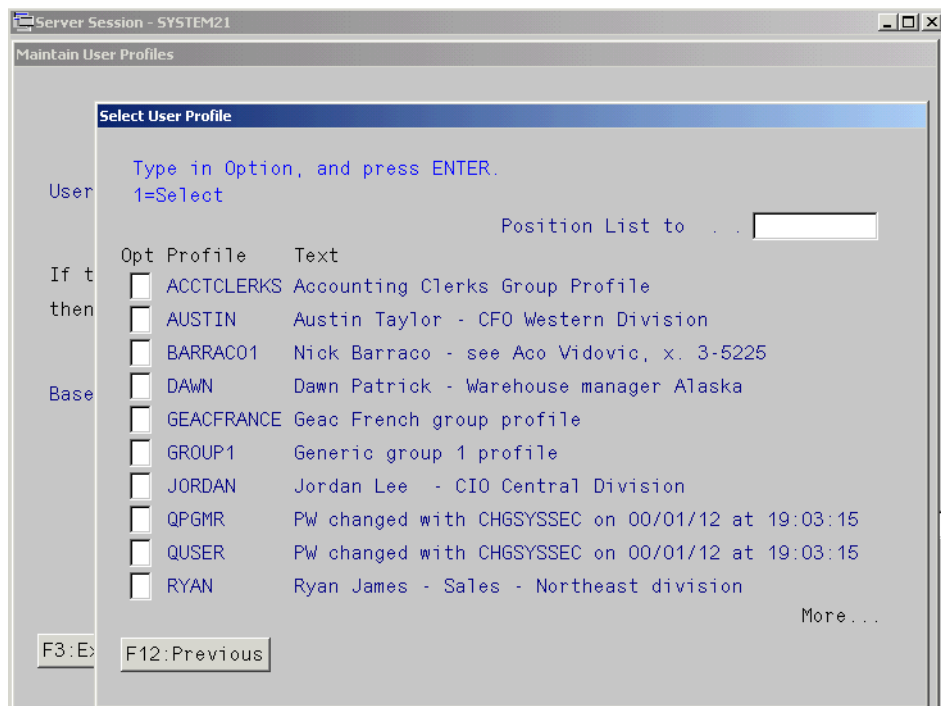

Figure 57. User Profile selection prompt
5. To review users that are already defined to System 21, click the **Select** button. This presents a list of users from which you can choose (Figure 57).
6. System 21 User Profile Maintenance supports the copying of group or user profiles during the creation of a new user. To create the new user based on another user, position the cursor to the Based on entry, and click the **Prompt** button. This also presents the same list as shown in Figure 57.